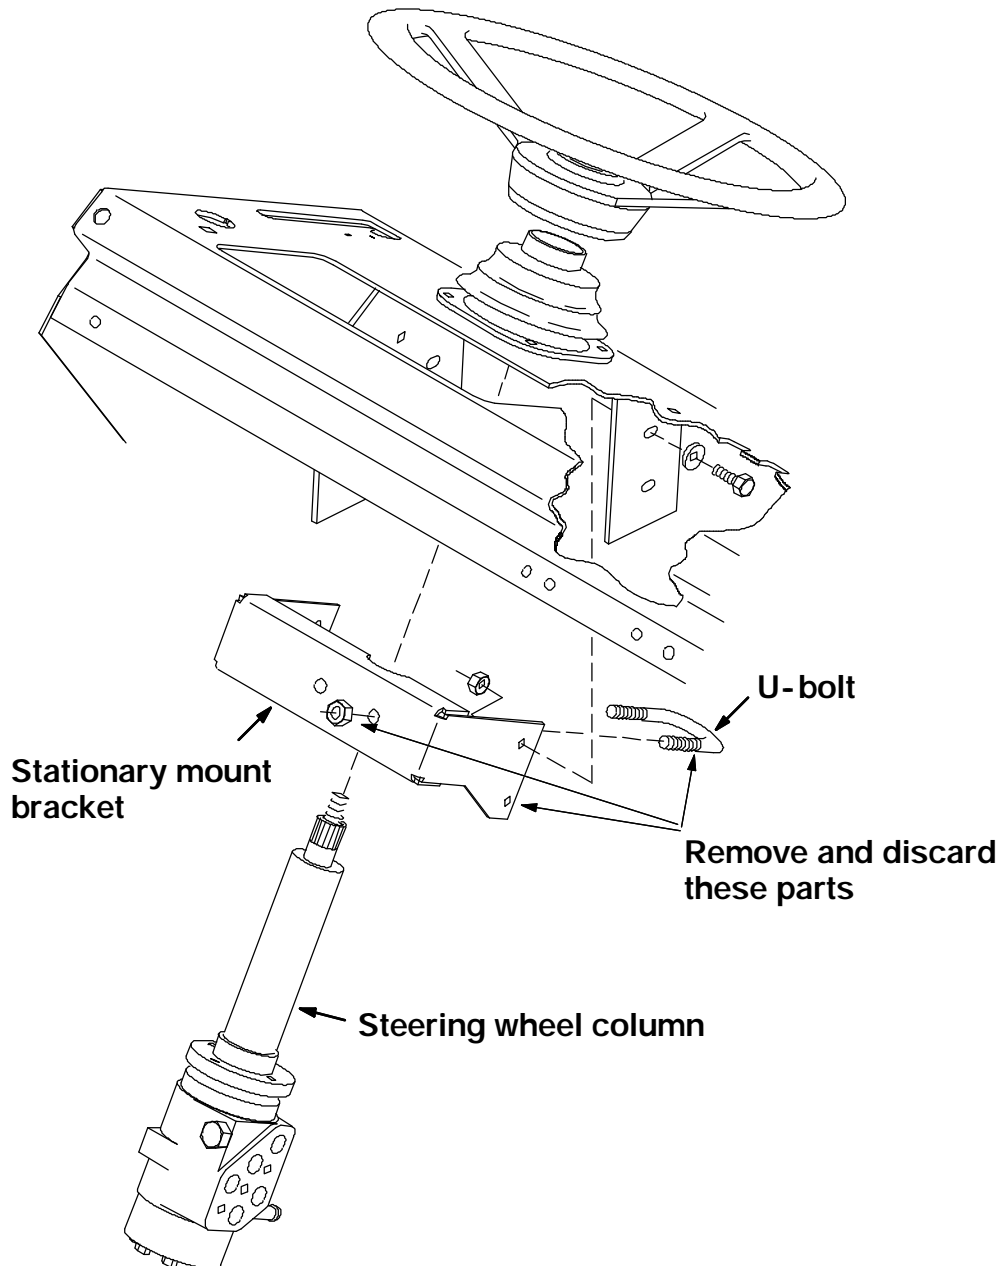

FIG. 1 - Parts Removal
(Refer to FIG. 1 and 2)
2. Locate the steering wheel column and hydraulic motor in front of the operators compartment. (Refer to FIG. 1)
3. Remove the two nuts holding the U-bolt and steering wheel column to the stationary mount bracket. Remove and discard the U-bolt. (Refer to FIG. 1)
4. Remove and discard the stationary mount bracket. (Refer to FIG. 1)